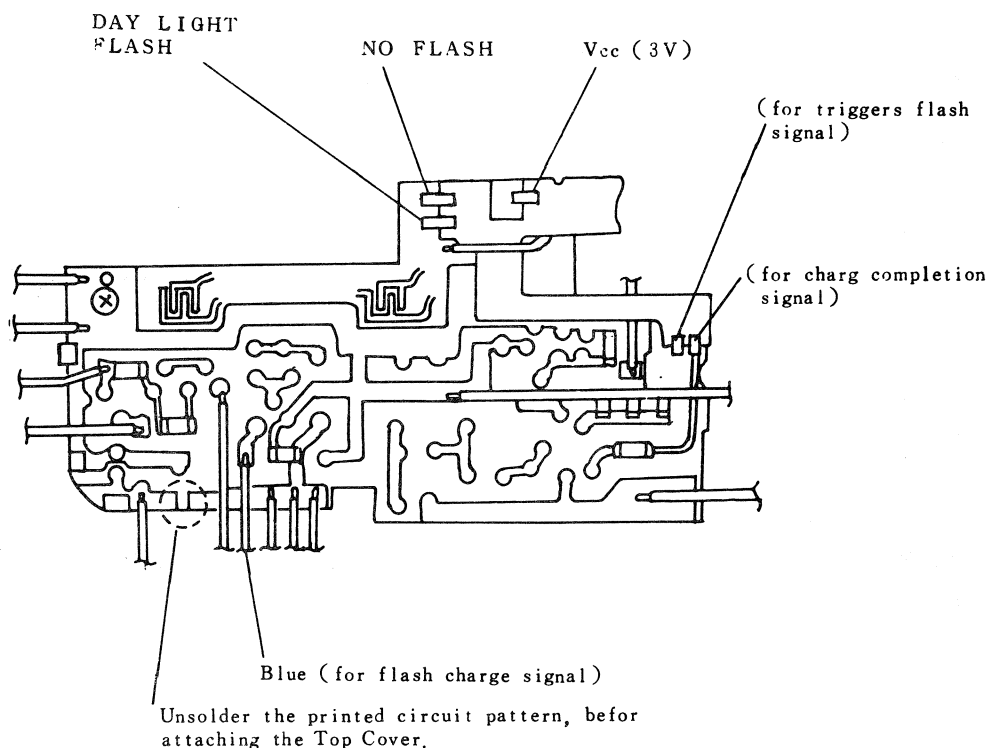

Fig 5
- 4) Solder the printed circuit pattern on the Flash AMP Ass'y as shown in (Fig 5).